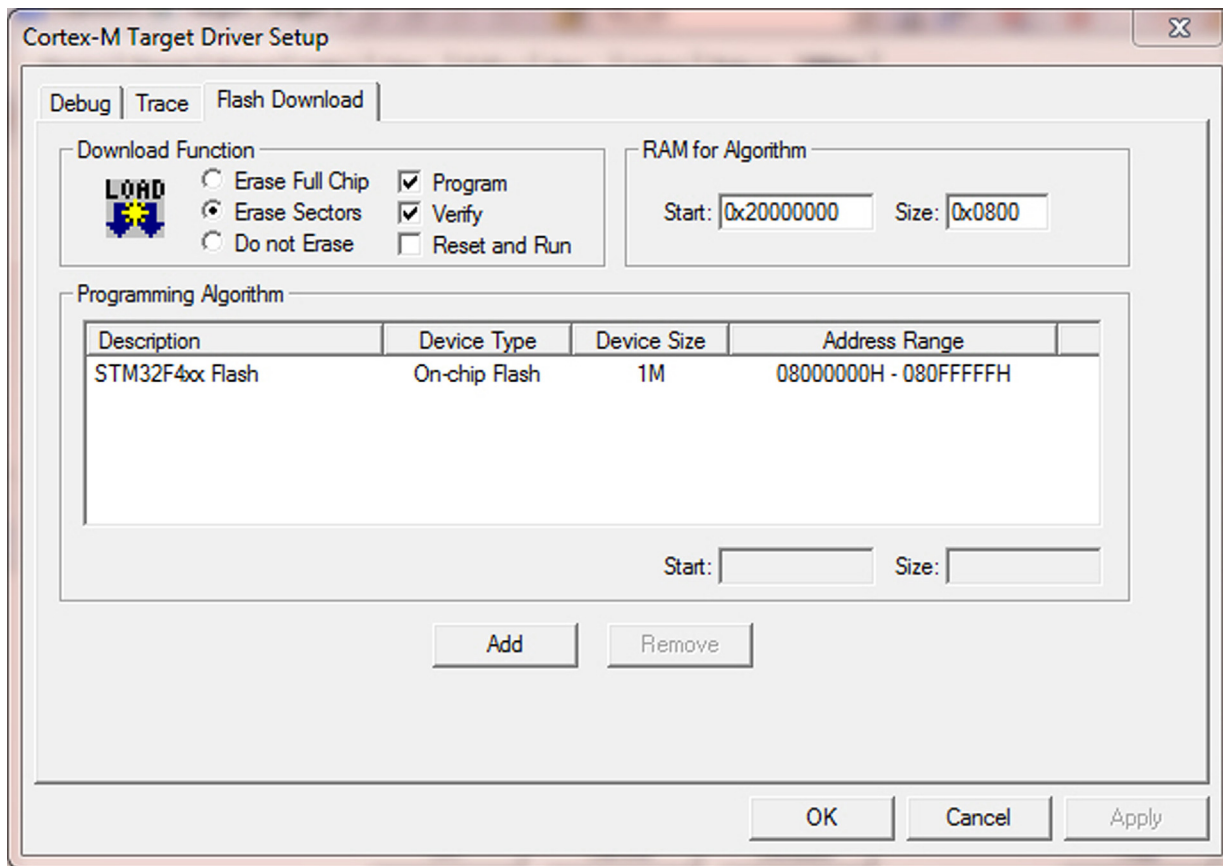

FIGURE 15.16
If we click on the “Settings,” we can see that the flash programming algorithm should have already been set up based on the choice of the microcontroller device (Figure 15.16).
- Flash download (see Figure 15.16)